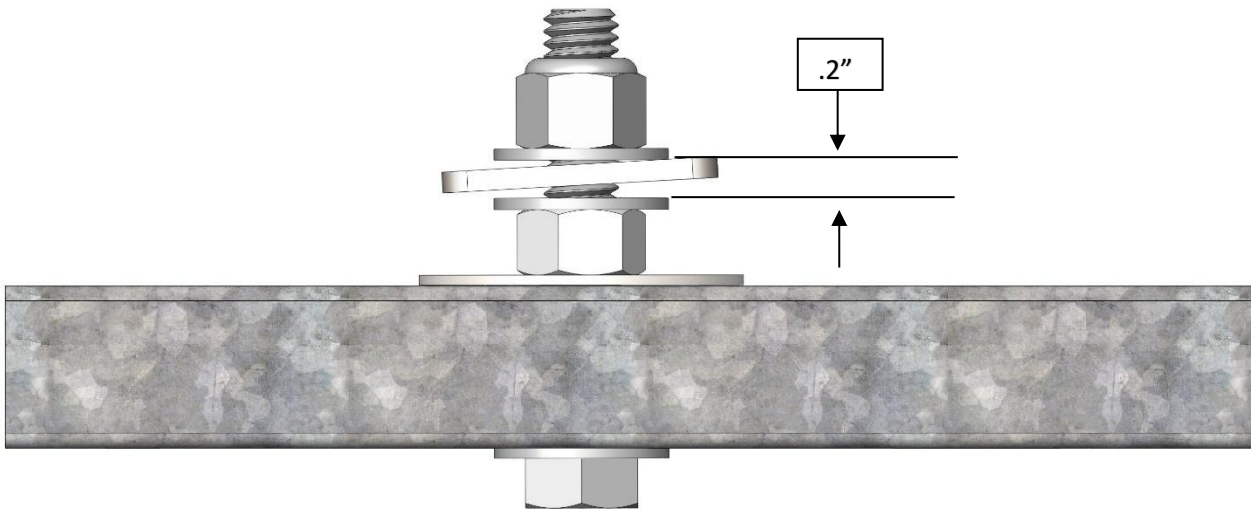

Figure 7: Upper tape mounting assembly
- Note: Exact positioning and lengths of Unistrut can be adjusted as needed as long as the Sensor Array is positioned as shown in figure 7.
- Temporarily affix a Tape Clip Assembly onto the guide rail to use as alignment for the Sensor Array Assembly. See figure 7.
- Set the end of the 24" Unistrut at 3.0" from the rear surface of the guide rail as shown in figure 7.
- Loosely bolt the Sensor Array Assembly onto the 24" Unistrut with the Door Zone Blade centered horizontally in the GLS Reader as shown in figure 7.
- Position the Sensor Array at the distances shown in figure 7 then tighten all bolts. Note: the Optical Sensor Mount bolts may be loosened if needed to adjust the position of the sensor.